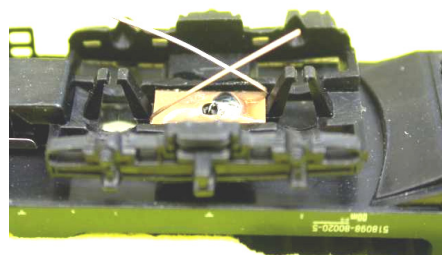

figure 8: The correct position of the current collector springs without the axle
12. The current collectors are our own design and patent protected under German law. A compromise had to be found between the elasticity of the metal and the contact pressure of the spring. Of course a high contact pressure guarantees a good current collection. This is no problem with powered locomotives, the engine easily surmounts this frictional resistance. With wagons pulled by a locomotive things are a bit more difficult. Concerning our current collector, we have given preference to the elasticity of the metal, and so to a low contact pressure. The very thin and flexible material has the ability to abut with a strong bending, but with low pressure, evenly and securely on the axle. This is why the spring is strongly bent forward, see figure 8. It can happen that this bend disappears in the course of time. So always check the spring when cleaning the wheels and if necessary bend the spring again as shown in figure 8. Don't be afraid, the material is suitable for this and due to the low contact pressure the wagon, in spite of its light weight, won't be lifted by the spring.